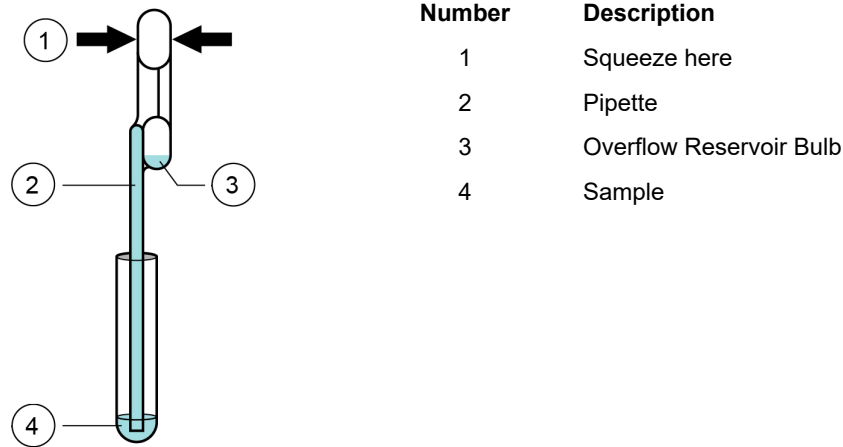

Figure 7. Transfer Pipette
14. Squeeze the top bulb of the transfer pipette completely and then place the pipette tip in the specimen transport tube (see Figure 7).
15. Slowly release the top bulb of the pipette to fill the pipette before removing from the tube. After filling pipette, excess sample can be seen in the overflow reservoir bulb of the pipette (see Figure 7). Check that the pipette does not contain bubbles.